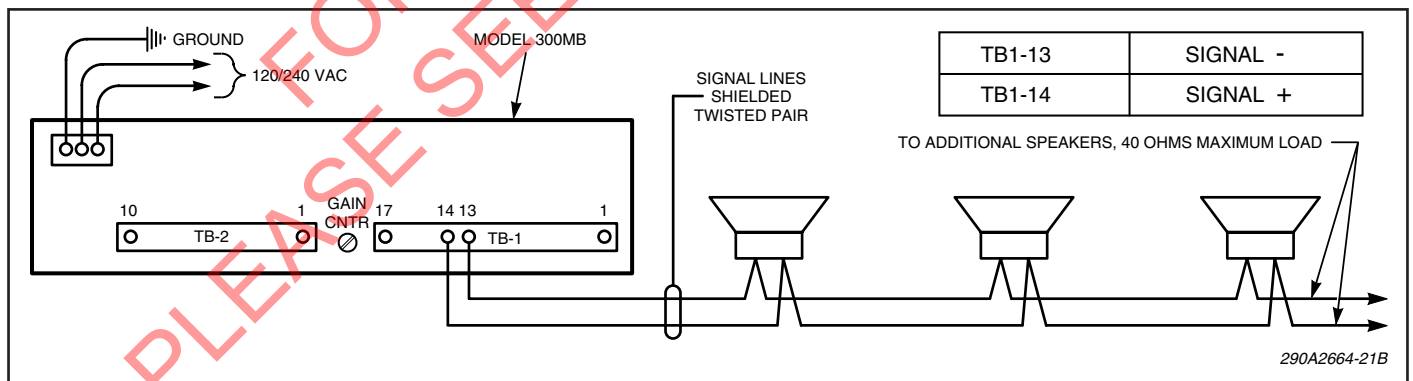

Figure 3-7. Model 300MB with 25VRMS Connections.
C. *300MB Driving a 25Vrms Speaker Line (see figure 3-7).*